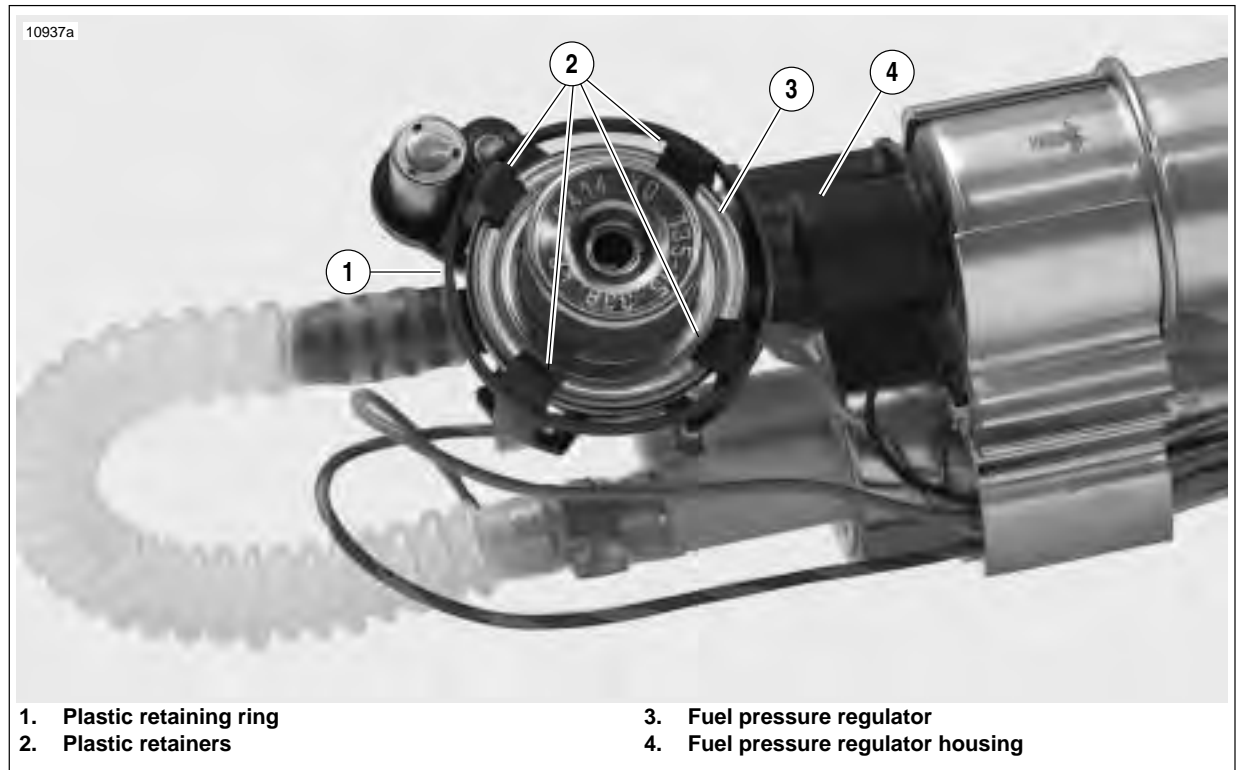

Figure 4-89. Fuel Pressure Regulator
2. See Figure 4-89. Remove the plastic retaining ring (1) securing the four plastic retainers (2) holding the fuel pressure regulator (3) in place. Spread the four clips and detach regulator (3) from regulator housing(4).